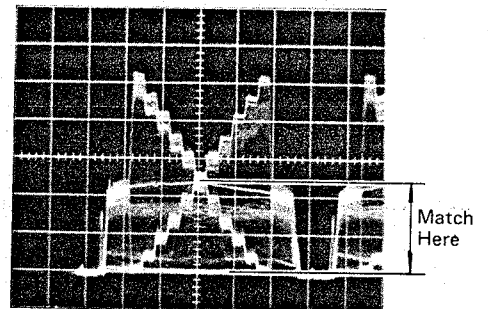

Fig. 6-4-39
- Connect the oscilloscope to TP308(R) and TP309( $Y_L$ ).
- Overlay the  $Y_L$  signal and the R signal on the oscilloscope, and adjust RED GAIN PRESET VR318 so that signals match in the lower half of the gray scale. (Fig.6-4-39)